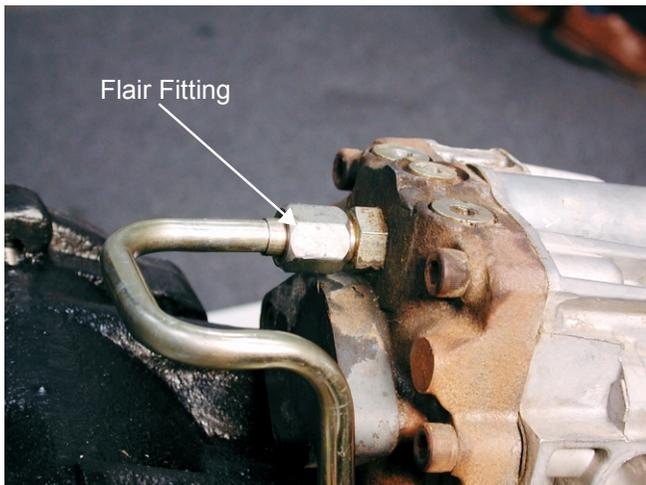

Figure 2
2. Remove the flair fitting securing the hydraulic pick up tube to the back of the BDU-10L using two 11/16 in. wrenches. See Figure 2.